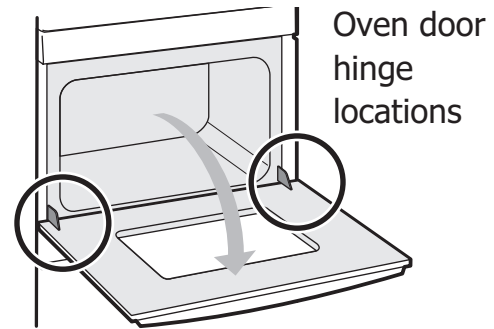
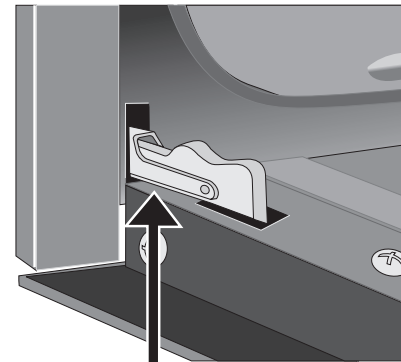

Figure 26: Door hinge location
Figure 27: Door hinge locked
2. Pull up the lock located on each hinge support toward front of the oven until the lock stops. You may have to apply a little upward pressure on the lock to pull it up (Figure 26 and Figure 27).
4. Push the door hinge locks up toward and into the oven frame on both left and right oven door hinges to the locked position (Figure 26).